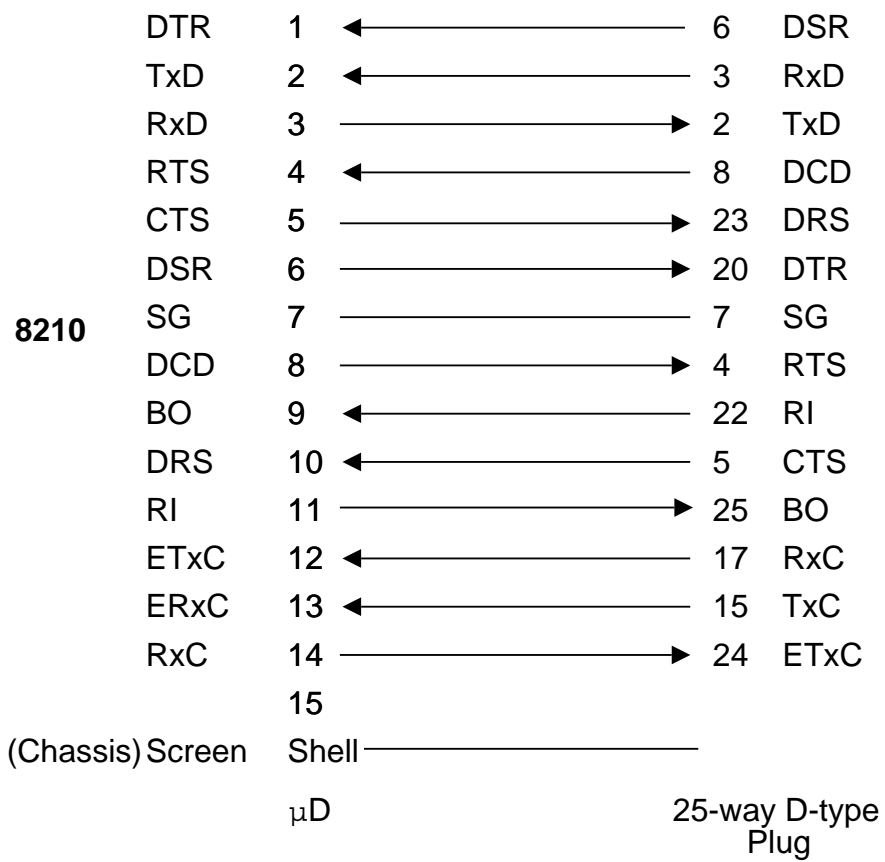

Figure B-3 V.24 Crossover Cable
- (2) 8210 Card to DCE (e.g. modem) use cable X890-410111, Figure B-3.